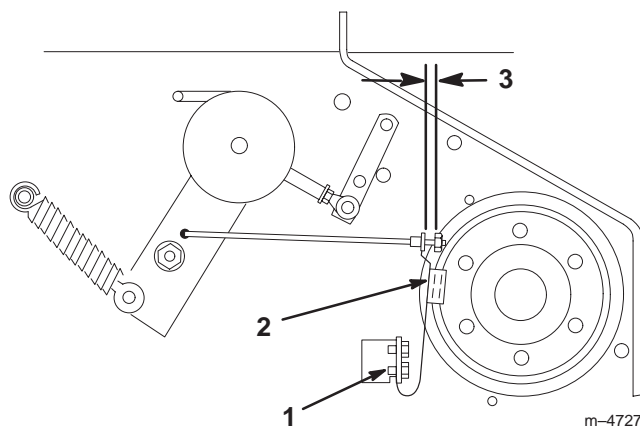

Figure 51
3. If necessary, adjust the spring mounting bolts so that the blade brake pad rubs against the pulley edges (Fig. 51).
4. Adjust the nut at the end of the blade brake rod until there is 1/8–3/16 inch (3–5 mm) between the nut and the spacer (Fig. 51).